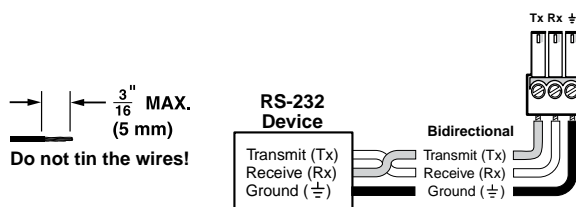

Figure 2-7 — RS-232 output insert wiring
- ⑤ **RS-232 Output Insert connectors** — For bidirectional RS-232 data that is routed to a specific (unswitchable) TP output, connect a serial device to one of these 3.5 mm, 3-pole captive screw connectors. Figure 2-7 shows how to wire the connectors.